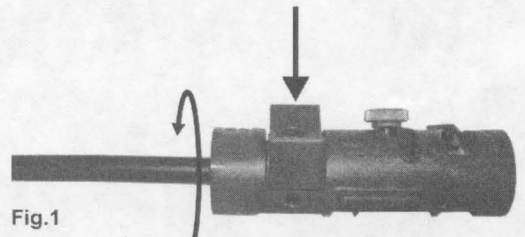

Fig.2
2. Pull the cable straight out of the tool opening while holding thumb pressure on the knife block. The exposed conductor length will be developed (Fig.2). Retract the knife block by pushing up on the guide rod underneath. **Ensure the cable chip gets ejected from the tool.** If not, re-insert prepared cable end to dislodge stuck cable chip.